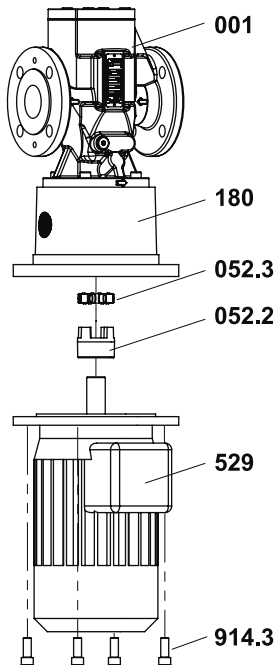

Fig. 2
2. Loosen the connecting screws 914.3 between the motor 529 and adapter housing 180 and lift the pump with adapter housing from the motor, see Fig. 2